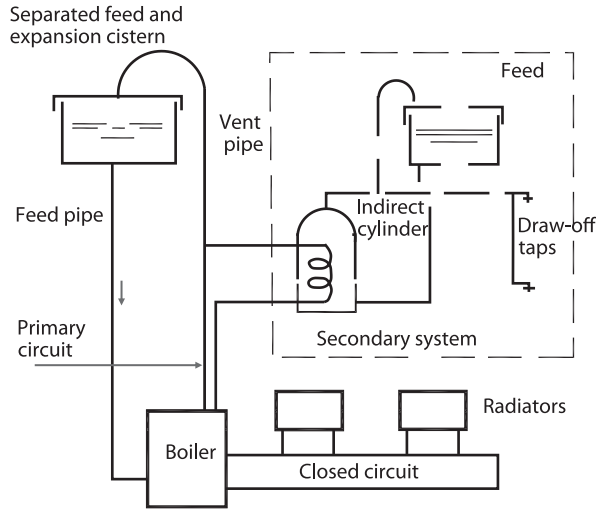

Figure 10.6: Schematic diagram of an indirect heating system.
- Indirect heating is usually combined with the central heating system. The water in the cylinders is heated indirectly by a separate water circuit that goes through the boiler, whereas a separate hot-water circuit supplies the radiators. The central heating system is fed by a separate water circuit, supplied by a small feed and expansion cistern that is also supplied by the rising main via a small ball-valve (Figure 10.6). It is also located in the attic and is needed only to top up the system due to evaporation losses. If the feed and expansion tank is being refilled by a constant drip, check that the ball-valve does not need adjusting. If there is no water in the overflow pipe then the dripping means that there is a leak somewhere in the central heating system and the water is escaping either from the enclosed pipework or a radiator.
Hot water always rises above cold water because as it heats up it becomes lighter (less dense). In the hot-water cylinder the hot water therefore collects at the top, so cold water is fed in at the base to replace any hot water drawn. When a boiler is fitted the heat exchange pipe runs from the top to the bottom of the cylinder, so that the hot water enters at the top ensuring the most efficient exchange of heat. The hot water is taken from the top of the cylinder to feed the hot-water taps around the house (Figure 10.6). A branch from the hot-water outlet pipe from the hot-water cylinder goes back up to the cold-water cistern in the attic. This